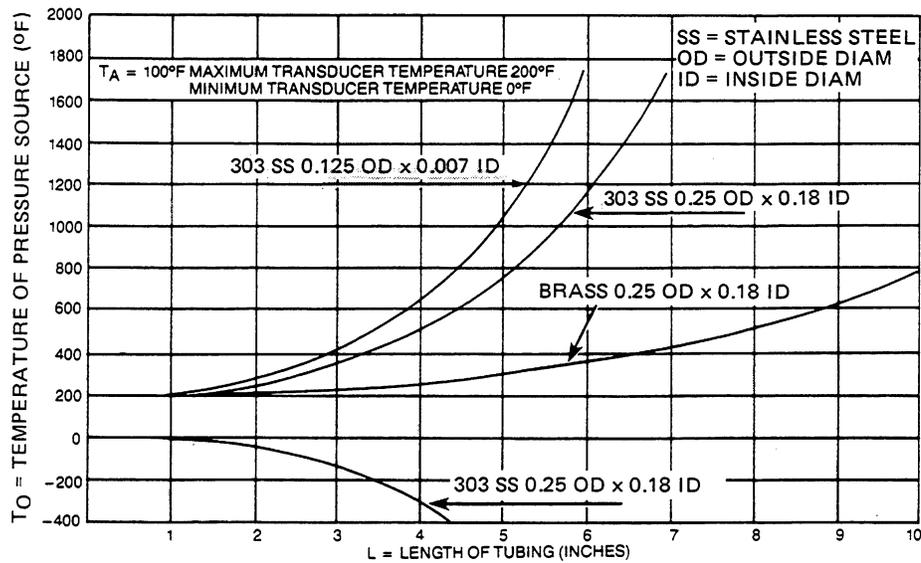

Fig. 1 Tubing length to isolate transducer from temperature source.
The manufacturer provides a graph of "Temperature of Pressure Source" versus "Tubing Length" to help do this. (See Figure 1.) This graph helps technicians choose a transducer to meet their special needs.
When these conditions are satisfied, you can use the graph in Figure 1 to solve the problem in Example A.
**Solution:** Use the graph given in Figure 1.
- The hydraulic oil temperature is 600°F. Find this value as "To" on the left side of the graph in Figure 1.